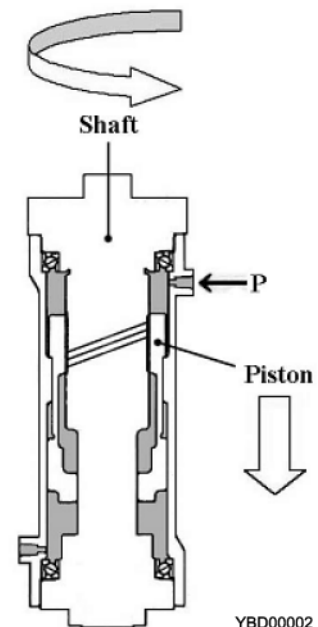

Fig. 3-21 Function of Rotary actuator
- 1) Pressurized oil comes in to the lower room of the rotary actuator and push up the piston as shown in the fig 3-21.
- 1) Pressurized oil comes in to the upper room of the rotary actuator and push down the piston as shown in the fig 3-21.